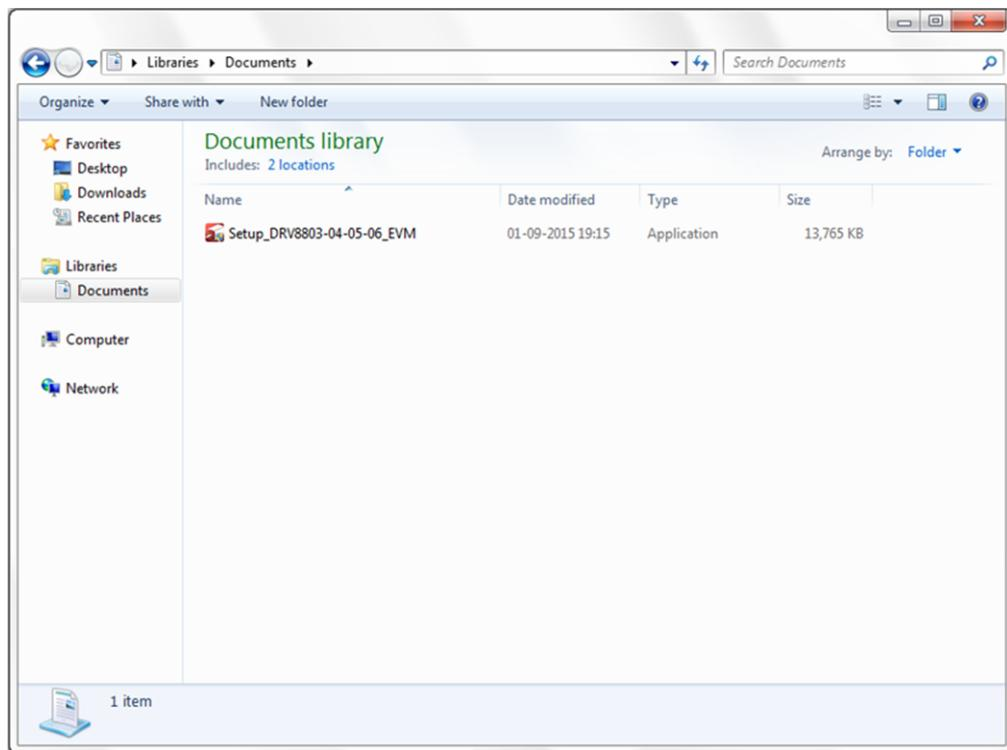

Figure 6. Setup_DRV8803/04/05/06_EVM.exe
1. Double click on the **Setup_DRV8803/04/05/06_EVM.exe** as in Figure 6.